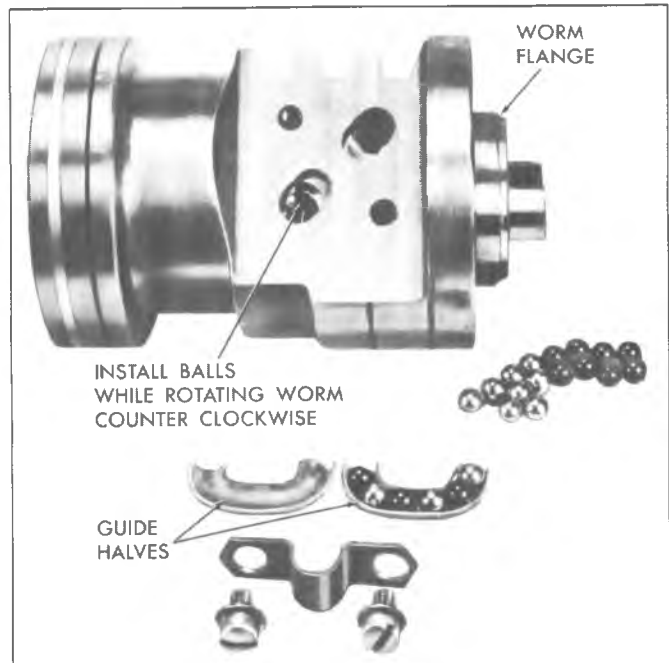

Fig. 48--Installing Balls in Rack-Piston
3. Turn the worm until the worm groove is aligned with the lower ball return guide hole (fig. 48).